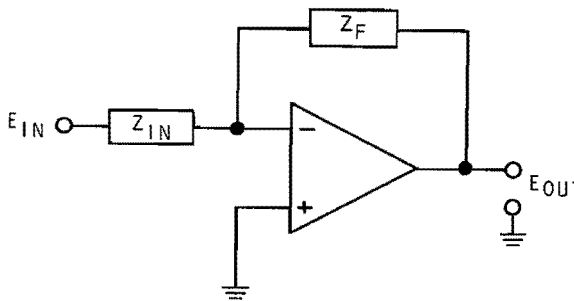

Figure 3-73
53. ( $E_{OUT} = -5(E_1 + E_2 + E_3)$ ) Figure 3-73 is a simplified diagram of an active filter. Either  $Z_{IN}$  or  $Z_F$  is composed of an RC network. This causes the circuit to amplify some  $\underline{\hspace{2cm}}$  more than others.